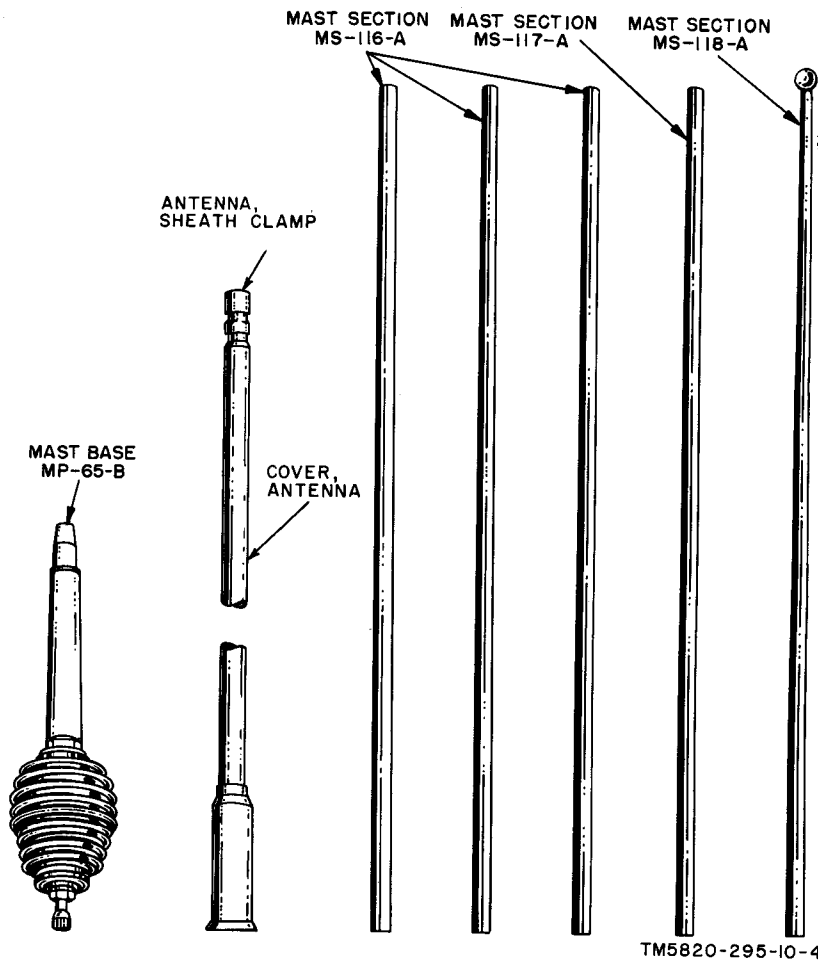

Figure 4. Whip antenna.
a. The whip antenna (fig. 4) consists of three Mast Sections MS-116-A, one Mast Section MS-117-A, one Mast Section MS-118-A, one Mast Base MP-65-B, one cover, antenna and one antenna sheath clamp. The mast sections are screwed together, and the assembly is screwed to the mast base which mounts on a rigid support. The antenna cover is mounted over the lower mast section (Mast Section MS-116-A) and fastened in place with the antenna sheath clamp. Connection between the transmitter and a binding post on the mast base is made with Wire W-146.